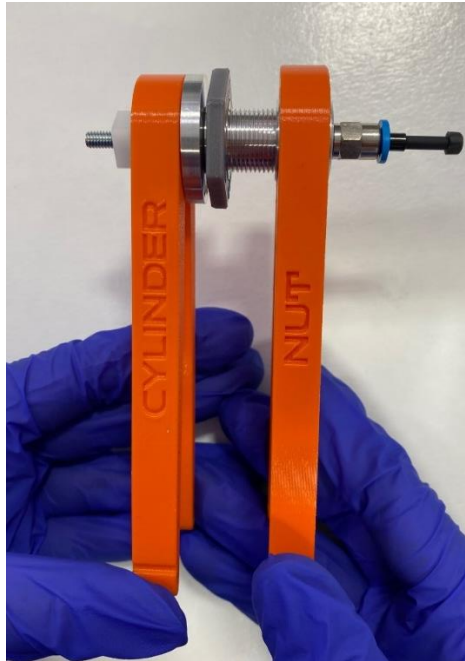

Fig. 17. Putting the B wrench on the cartridge nut.
- b. Put wrench marked 'cylinder' on the cartridge cylinder according to Fig.17,
- d. Install wrench marked 'nut' on the cartridge nut according to Fig.17,